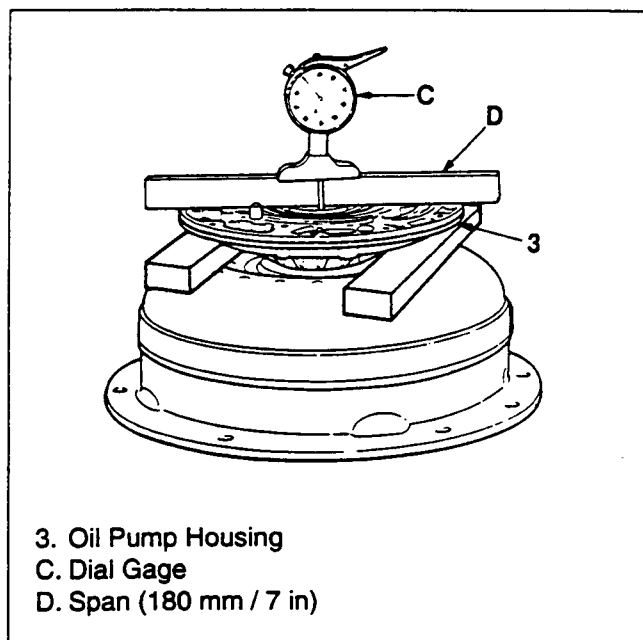

Figure 67. Side Clearance Measurement (1)
4. Measure the side clearance (figures 67 and 68).